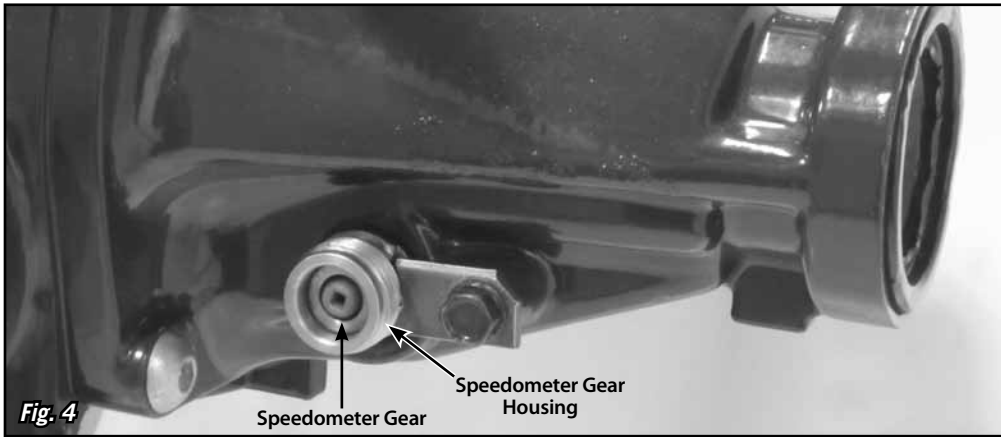
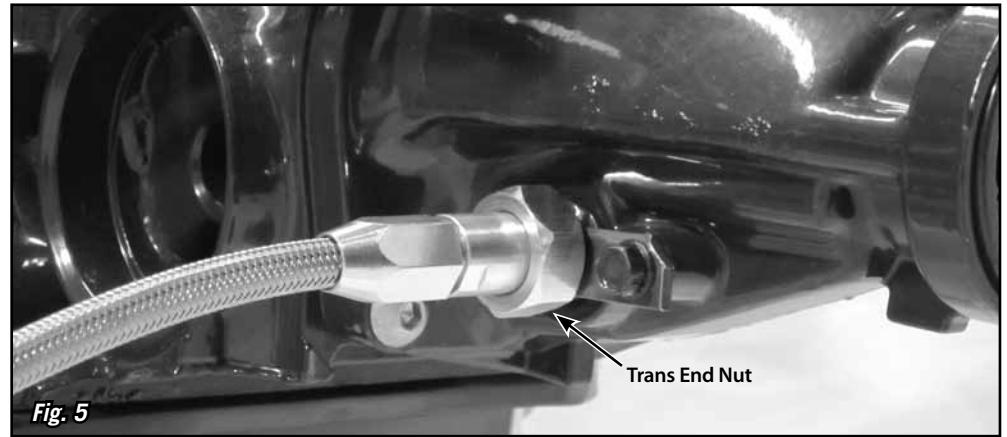

Fig. 4
Fig. 5
Step 5: Install the inner wire into the cable housing with the square end of the inner wire into the speedometer gear at the transmission, making sure the inner wire bottoms out in the speedometer gear. Thread the trans end nut onto the speedometer gear housing. Fig. 4 & Fig. 5